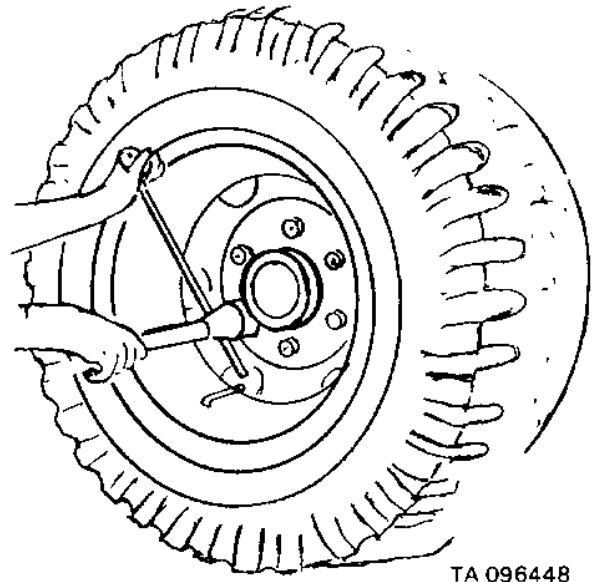

Figure 3-5. Removing and installing wheel and tire.
(1) Wheels. The wheels for the semitrailer chassis are offset disk-type rim with split-type retaining side ring. Outer cap nuts for the right wheels (marked R) have right hand threads and those for the left wheel (marked L) have left hand threads. The studs are similarly marked. Nuts must be turned in the opposite direction to the normal forward rotation of the wheel to be loosened or removed.
(2) Tires. Tires are of military pneumatic type, nondirectional, cross country tread design, size 9.00 by 20, 8-ply rating.
*b. Removal of Wheel and Tire Assemblies from Hub (fig. 3-5).*
(1) Apply brakes to the chassis wheels. If chassis is attached to the towing vehicle, wheels may be locked by disconnecting emergency air connections.
(2) Loosen six outer wheel nuts, using a wheel nut wrench.
(3) Raise vehicle and remove wheel nuts. Remove outer wheel.
(4) Remove inner six cap nuts and inner wheel in same manner.
c. *Installation of Wheel and Tire Assemblies on Hub (fig. 3-5).*
(1) Slide inner wheel on hub over six studs with convex side of wheel facing out.
(2) Install six inner wheel cap nuts. Alternately tighten nuts on opposite sides to insure even tightness of all nuts.
(3) Slide outer wheel on hub over six inner cap nuts with convex side of wheel facing in and against the inner wheel. Make certain that valve stem for outer wheel is not aligned with valve stem of inner wheel.
(4) Install six outer wheel nuts and alternately tighten nuts on opposite sides to insure even tightness of all nuts.
(5) Check nuts before lowering wheel to ground to make certain they are all firmly seated. After wheel is on the ground, tighten nuts with a torque wrench to 450-500 lb ft.
(6) Inflate tires to 50 psi for highway driving, 30 psi for cross-country driving, and 20 psi for driving in soft sand.